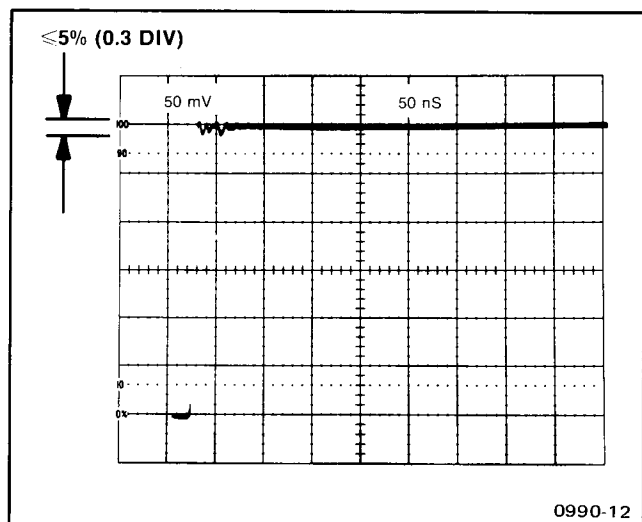

Fig. 5-4. Pulse response with high frequency compensation properly adjusted.
g. CHECK—Front-corner square-wave aberrations of less than 5%, excluding the effects of the test oscilloscope. Fig. 5-4 illustrates typical response when high-frequency compensation is properly adjusted (5% x 6 Div = .3 Div). Excessive aberrations caused by the generator can be reduced by pulling the Back Termination switch on the pulse generator.
e. Set the pulse generator Pulse Duration control to SQ Wave and the Period control to 1 μ s. Set the Output (Volts) for six divisions of deflection, and set the test oscilloscope triggering controls for a stable display (see Fig. 5-4).